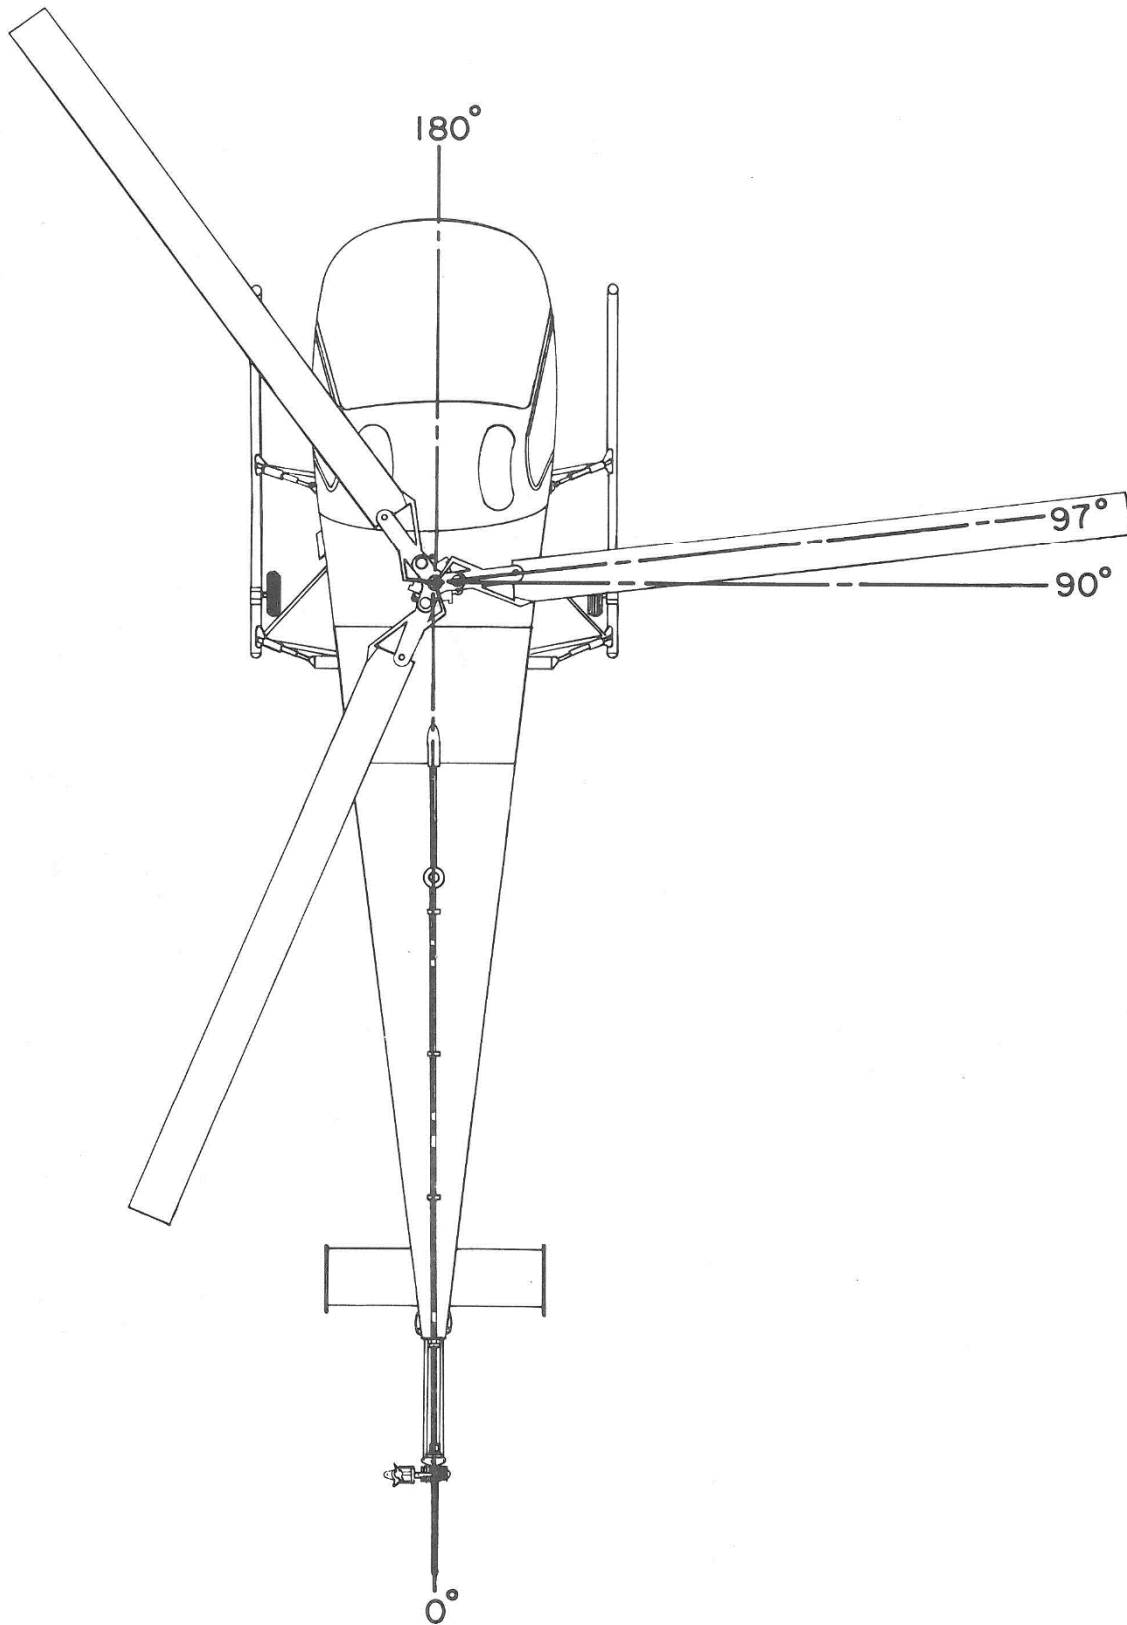

Figure 12-17. Main Rotor Azimuth Positions
3. Rotate the main rotor hub until #1 grip is at the 97° azimuth position (Figure 12-17).
8. Rotate #1 blade to the 97° azimuth position (Figure 12-17).
1. Rotate #1 blade to the 97° azimuth position (Figure 12-17).